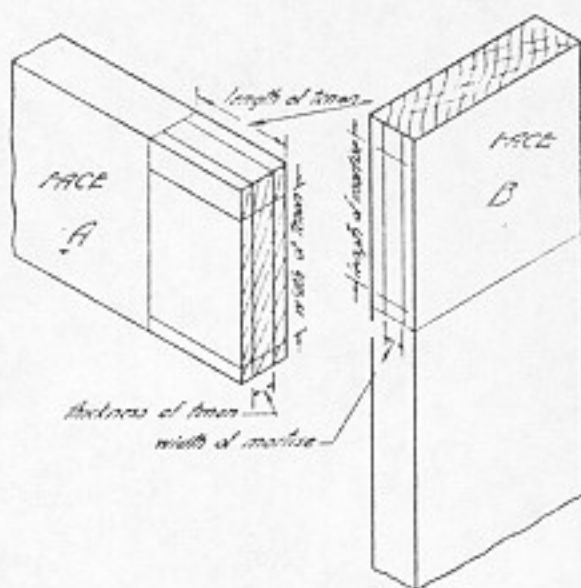

Fig. 238. Layout of blind mortise-and-tenon joint.
Laying Out. 1. The pieces are squared to dimensions and their faces are marked. The tenon is called member A, and the mortise, member B (Fig. 238).
6. A tenon usually is both thinner and narrower than the piece on which it is cut. This is done so that the mortise will be entirely covered when the joint is assembled. When the mortise is made at the end of the piece as in Figure 238, at least $\frac{1}{2}$ in. is taken from the width of the tenon to prevent the end wood of the mortise from tearing out. These measurements are laid out simultaneously on both the tenon and mortise members.